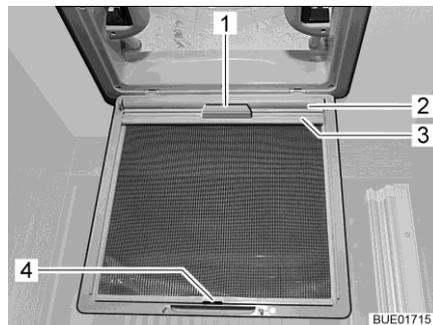

Fig. 86 Blind (skylight)
- Using the handle (Fig. 86,1), pull out the blind (Fig. 86,2) and hook the retainer (Fig. 86,3) into the hook (Fig. 86,4) on the insect screen.
- Release the retainer (Fig. 86,3) from the hook (Fig. 86,4) and, using the handle (Fig. 86,1), slowly return the blind (Fig. 86,2).